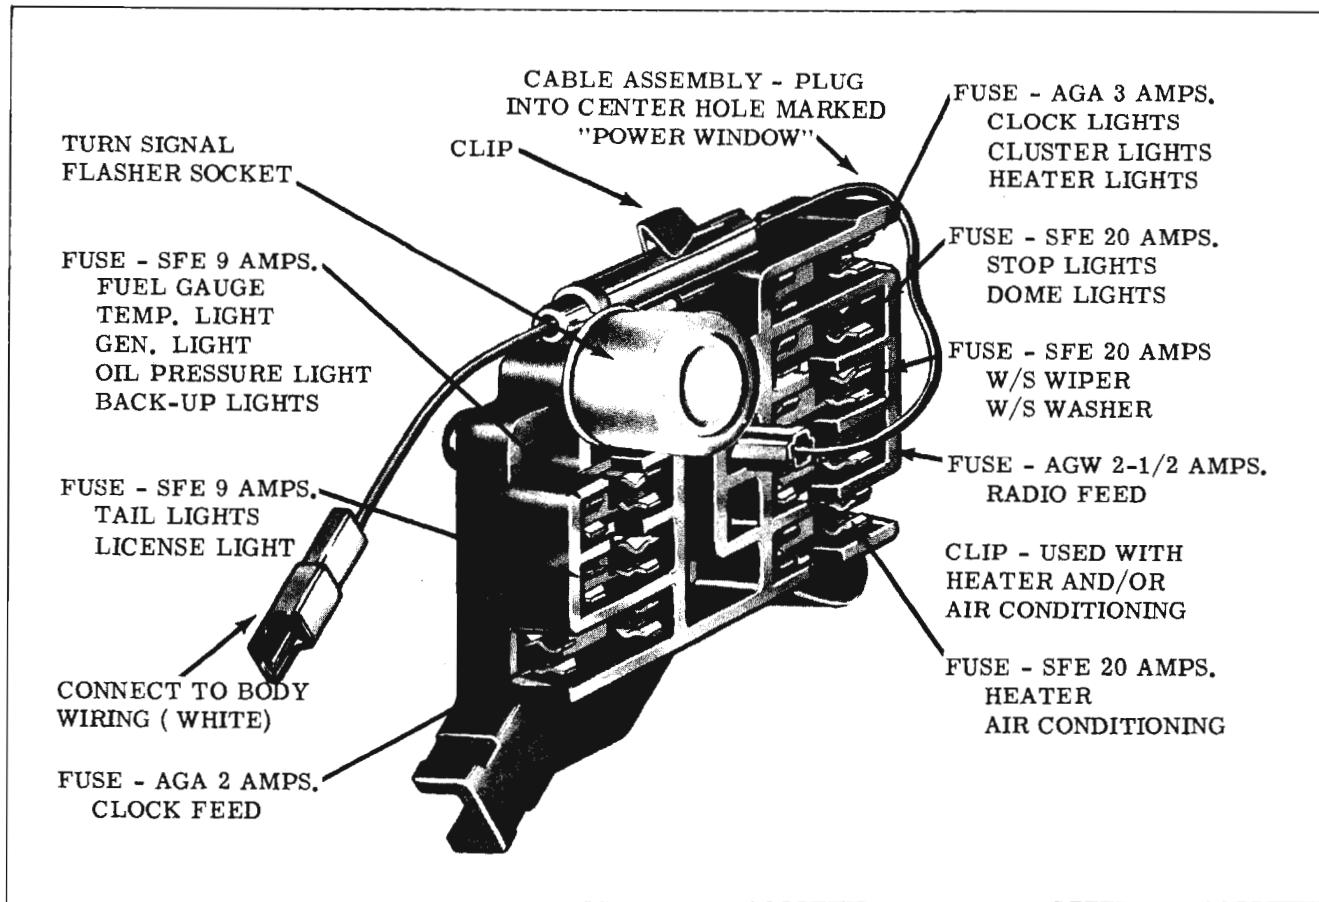

Fig. 14-102 Fuse Panel
3. Remove the two sheet metal mounting screws. (Fig. 14-102)
2. Mount the panel on the cowl using two sheet metal screws. (Fig. 14-102)
1. Mount fuse panel on cowl. (Fig. 14-102)